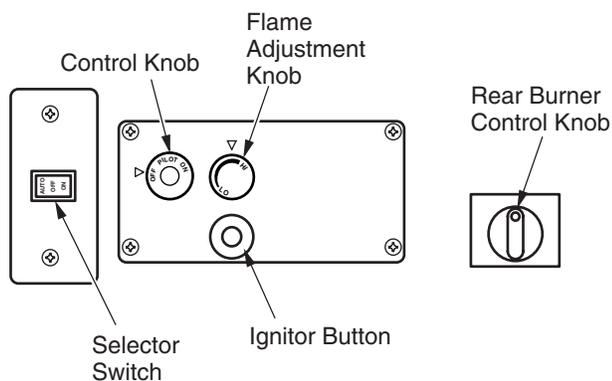

Figure 37 - Control Knobs and Ignitor Button Locations (Shown as Supplied, No Remote Control Operation)
5. Wait five (5) minutes to clear out any gas. Then smell for gas, including near the floor. If you smell gas, **STOP!** Follow "B" in the safety information, column 1. If you don't smell gas, go to the next step.
6. Press in and turn control knob counterclockwise  to the PILOT position. Press in control knob for five (5) seconds (see Figure 37, page 21).